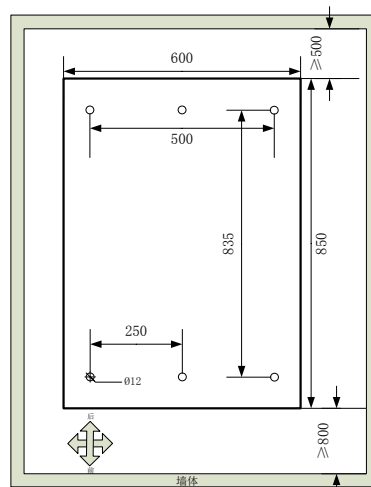

Fig. 3-4 Hole size of 200 kVA
**Step 1:** Determine the installation position and mark the positioning on the installation surface according to the hole location size diagram. The size diagram of 100 kVA UPS is same as the diagram of 200 kVA UPS, take 200 kVA UPS as an example shown in Fig. 3-4.